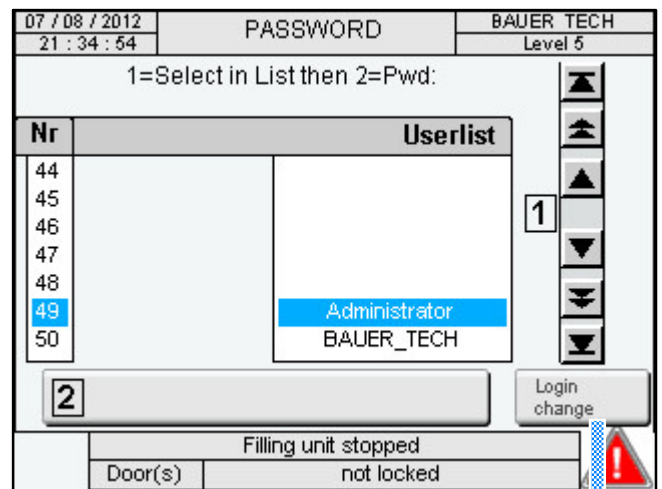

Fig. 15 PASSWORD page – traceability
- 1- Select the user using the arrows: **1**, Fig. 15.